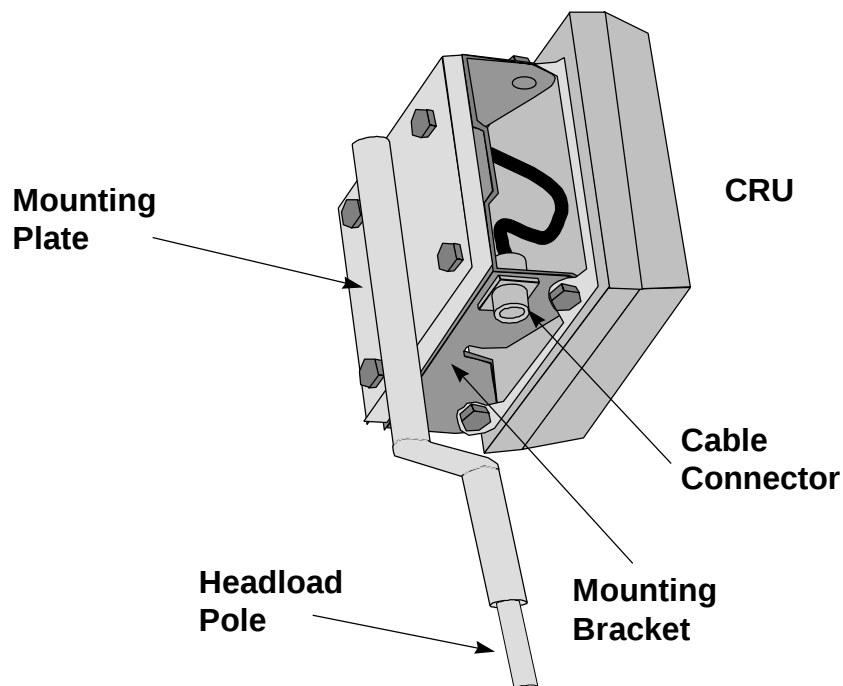

Figure 7. Headload CRU
1. The CRU is ready mounted on a headload pole. See Figure 7.